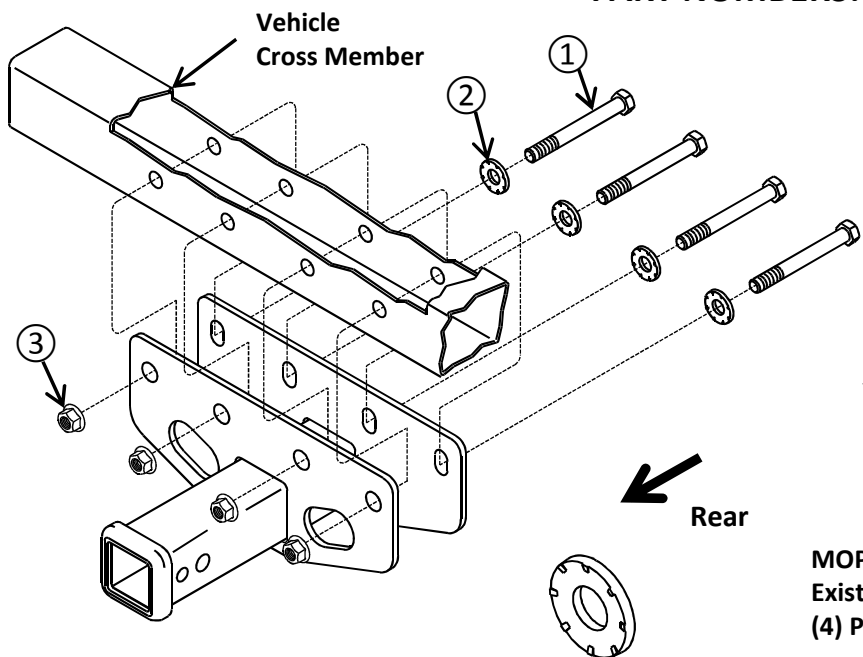

Figure 1
3. **Install fasteners** - Install (4) ½-13 x 4.50 long bolts, conical toothed washers, and Hex Flange Lock Nuts as shown in figure 1.